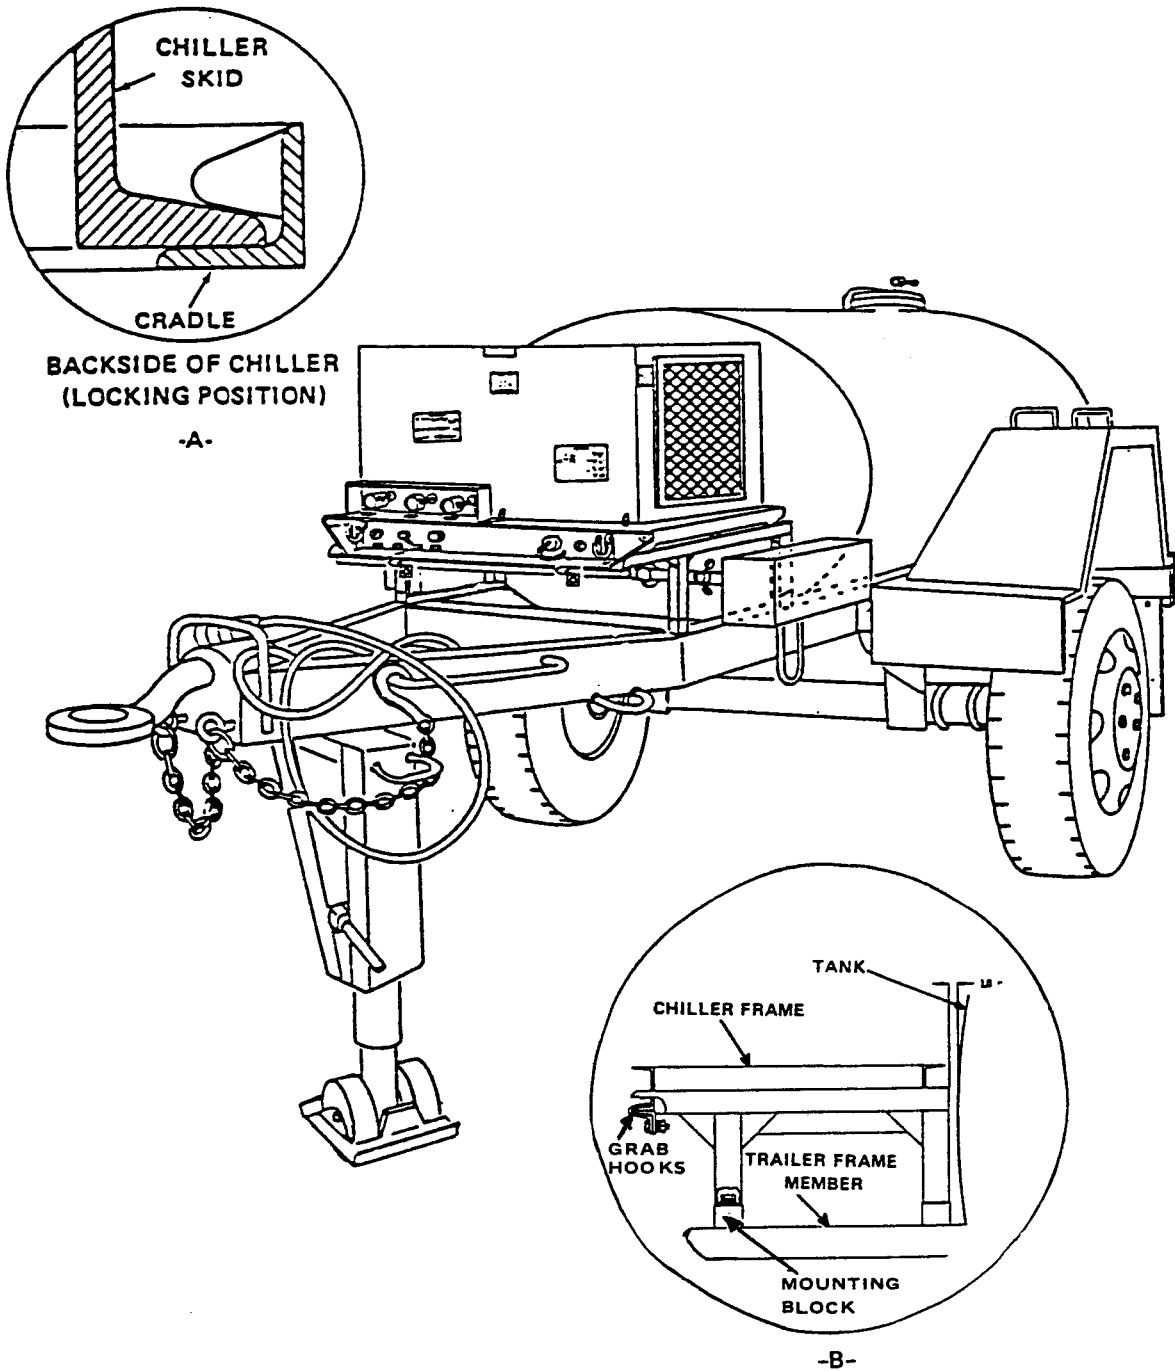

Figure 4-2. Installation of Small Mobile Water Chiller Kit
a. Chassis Modifications. If trailer has not been modified with mounting blocks (view B, figure 4-2) refer to Direct Support Maintenance for trailer mounting kit installation.
- 1 If trailer has been modified with mounting blocks, bolt cradle to trailer (view B, figure 4-2).
- 2 Slide water chiller in the cradle. until it stops against the back and locks under tabs (view A, figure 4-2).
- 3 Bolt grab hooks to cradle locking down the front of the water chiller (view B, figure 4-2).